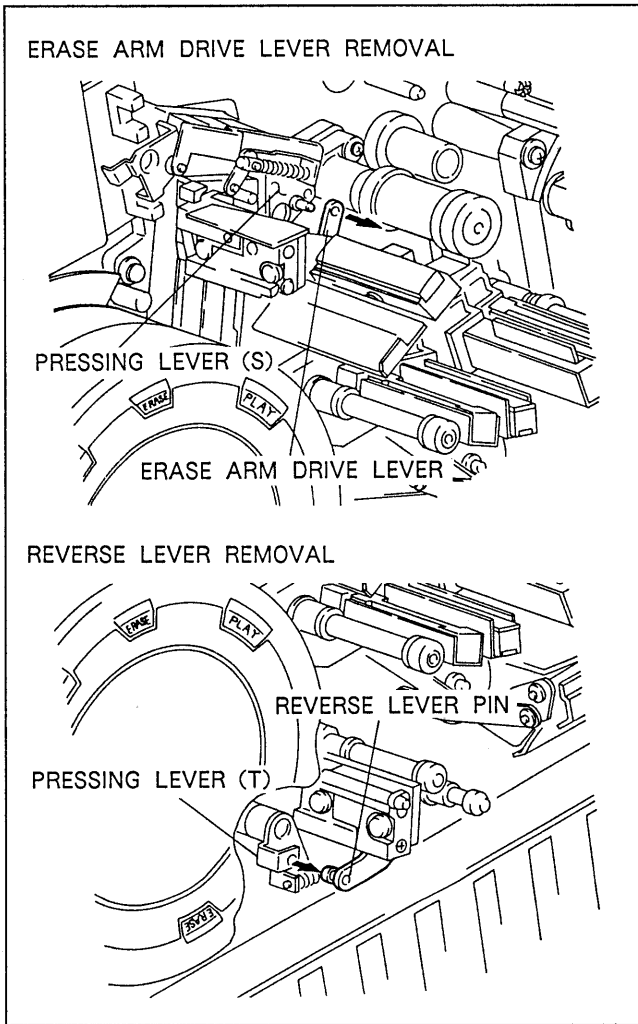
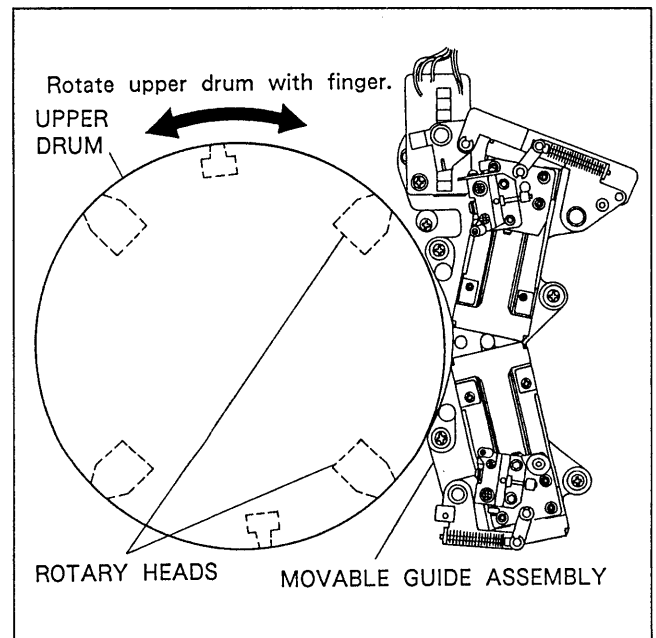

Fig. 6-4-3. Removal of Erase Arm Drive Lever/Reverse Lever
Fig. 6-4-4. Upper Drum Stop Position
3. Pull out the erase arm drive lever from the pressing lever (S)'s pin to the arrow direction as shown in Fig. 6-4-3.
4. Pull out the reverse lever pin from the pressing lever (T).
5. While rotating the upper drum slowly with finger as shown in Fig. 6-4-4, stop the drum rotation at the position where video heads are most far from the movable guide assembly.
9. While rotating the upper drum slowly with finger, stop the drum rotation at the position where video head is most far from the movable guide assembly as shown in Fig. 6-4-4.
10. Install temporarily the movable guide assembly on the base plate by turning the fixing screw ① lightly (Tighten the screws once and rotate them counterclockwise by 1/4 to 1/2 turn.).